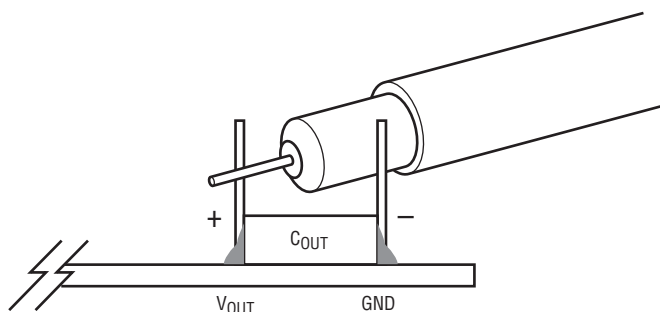

Figure 3. Measuring Output Voltage Ripple
**Note.** When measuring the input or output voltage ripple, care must be taken to avoid a long ground lead on the oscilloscope probe. Measure the output voltage ripple by touching the probe tip directly across the C50. See Figure 3 for proper scope probe technique.
An accurate ripple measurement may be performed by using the configuration across C50 as shown in Figure 3.